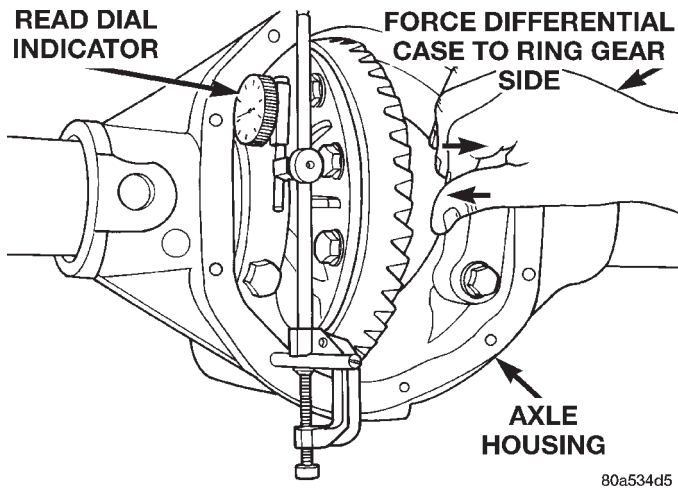

Fig. 56 Hold Differential Case and Read Dial Indicator
(12) Push and hold differential case to ring gear side of the axle housing (Fig. 56).
(13) Record dial indicator reading (Fig. 56).
(14) Add 0.008 in. (0.2 mm) to the zero end play total. This new total represents the thickness of shims to compress, or preload the new bearings when the differential is installed.